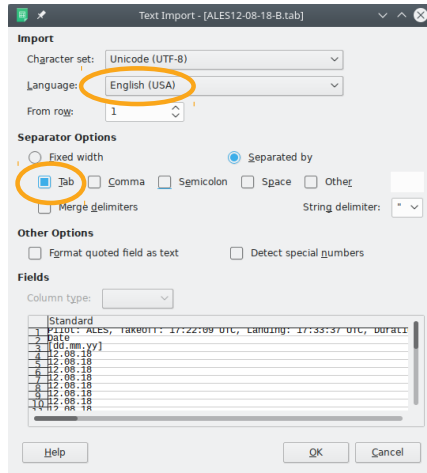

Figure 47: An example of Calc Text Import window.
5. Calc detects that a text file is being imported and it opens a window as shown in Figure 47. Please make sure that the *Tab* option is selected as the separator and *English (USA)* as the language. This makes sure that decimal values are properly imported.